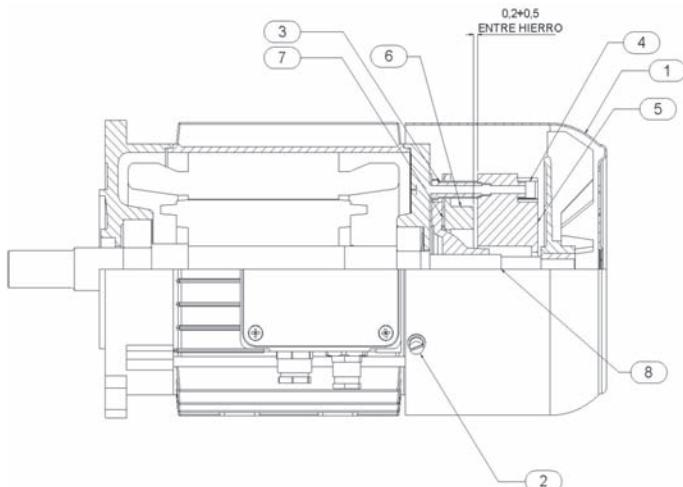

Figure 10, Two-speed brake motor, ABK051
The procedure for resetting the air gap, figure 10, is as follows:
- It is advisable to replace the brake disc when its thickness falls below 3,5 mm. For its replacement, the procedure is as follows, figure 10:
- Remove the protective cover for the brake (1) and the fan, by removing the bolts (2). The brake is now visible.
- Unscrew and remove the nuts (4).
- Carefully remove the magnet (5) and the free yoke (6), to prevent damage to the cable connecting it to the motor.
- Remove the disc (7). Clean and de-lubricate the friction surfaces and the toothed area of the motor shaft (8).
- Check that the new disc (7) does not contain any impurities on the toothed cube, and then attach it to the motor shaft. (8). The correct assembly position is shown in figure 10.
- Check that the part has no difficulties with axial movements. Insert the free yoke (6) and the magnet (5).
- Screw the bolts (4) and adjust the air gap as described above.